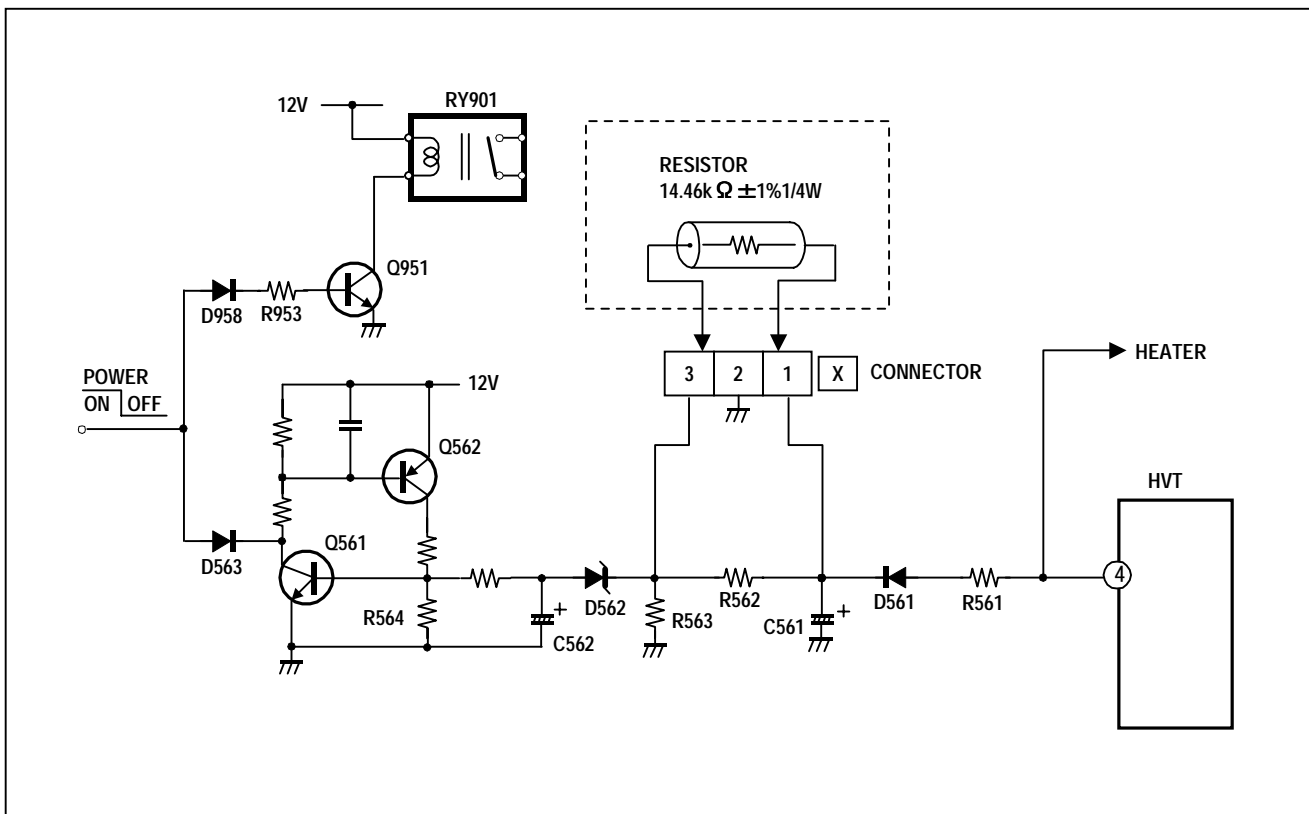

Fig. 1
- (1) Turn the POWER SW ON.
- (2) As shown in Fig. 1, set the resistor (between  connector  1 &  3 ).
- (3) Make sure that the screen picture disappears.
- (4) Temporarily unplug the power cord.
- (5) Remove the resistor (between  connector  1 &  3 ).
- (6) Again plug the power cord, make sure that the normal picture is displayed on the screen.